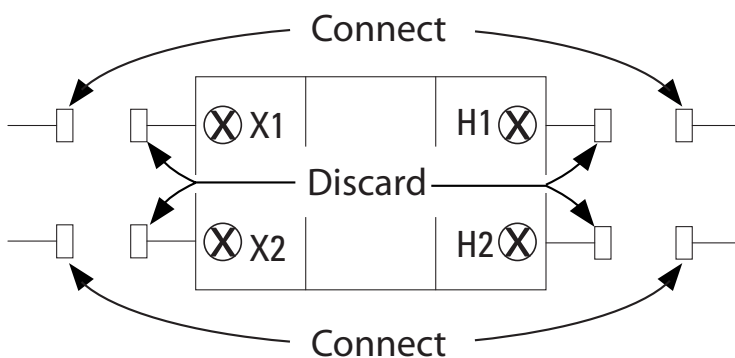

Fig. 19a
- K. **For 3 Phase 208-230VAC Systems:** The transformer inside the master enclosure must be bypassed. Unplug the quick-connectors on the primary and secondary side of the transformer, and unscrew and discard the ends that are connected to the transformer, Fig. 19a. The transformer is not used and may be removed. The connector that was routed to X1 should be directly plugged into the connector that was routed to H1, and the connector that was routed to X2 should be directly plugged into the connector that was routed to H2, Fig. 19a.